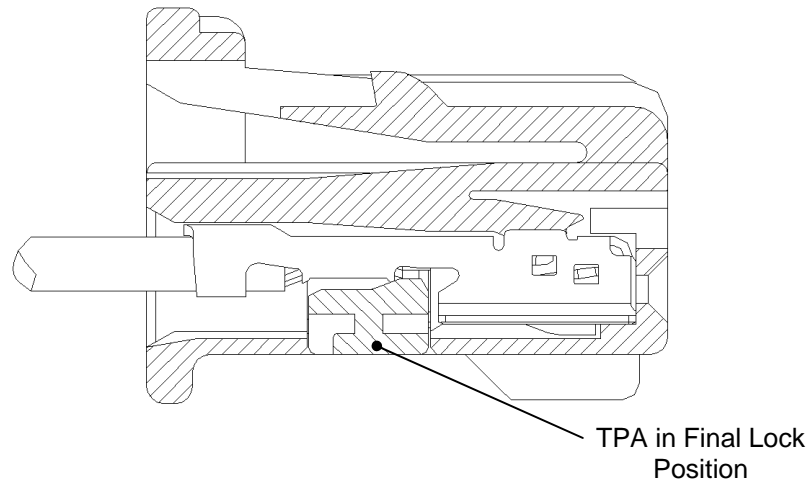

Figure 17. TPA in Final Lock Position
- b) As TPA goes into its final position, an audible click should be heard as the secondary lock engages in the housing. See Figure 17.
- a) Check to see if the TPA is in the proper position before mating the assemblies. See Figure 17 for the TPA's final position.